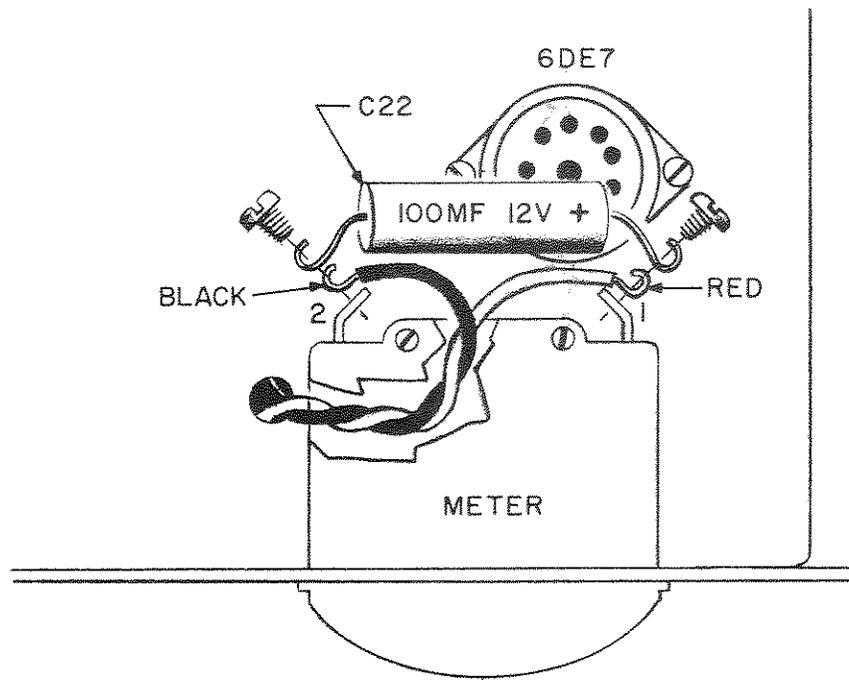

Figure 23. Wiring of Meter
- (✓) Connect the other end of the red wire connected to terminal 4 of S4 along with the plus lead of the 100 MFD-12V electrolytic capacitor C22 to terminal 1 of the meter, tighten the terminal screw (Figure 23).
- (✓) Connect the other end of the violet wire connected to terminal 2 of TS-10 to terminal 3 of the Key Jack J3 as shown in Pictorial 7 (DS).